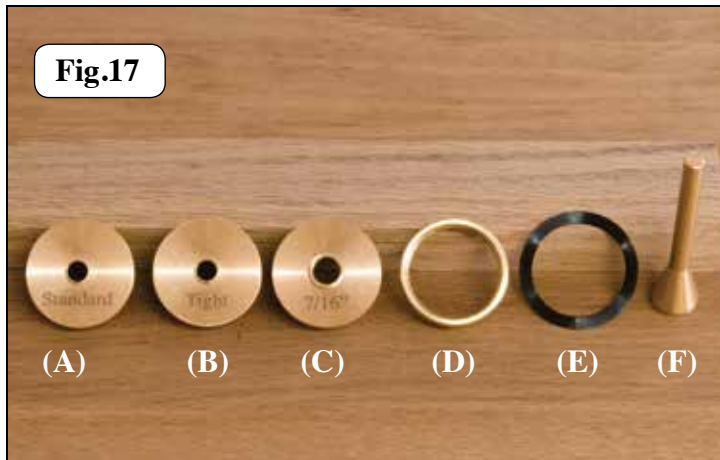

Fig.17
Included with your Fast-joint™ system are three different size brass bushings that will fit into most router plates with a 1-1/4" opening with a rabbeted off-set of 1-3/8". One bushing is marked "standard" (A), which is used with the 3/16" upcut spiral bit on most of the templates. The second bushing is marked "tight" (B) which is used with the 3/16" upcut spiral when you would like to tighten the joint. The third is marked 7/16" (C), which is to only be used with the 14° dovetail router bit. A locking nut (D), spring washer (E) and the brass centering pin (F) are also included with your system. (See Fig. 17).